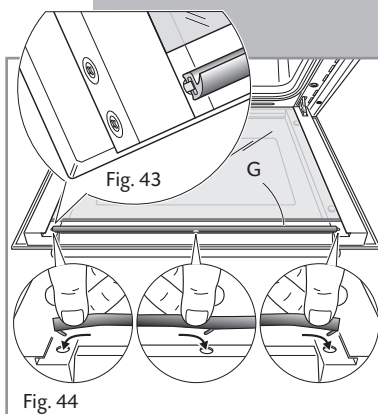

Fig. 44
- Reassemble the seal **G** in the correct way (fig. 43) by hooking the no. 3 fixing hooks in the proper holes (fig. 44).